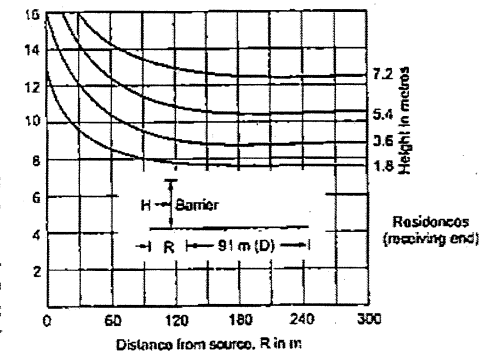

Fig. 8.4 Noise reduction caused by barrier wall raised between a noise source and the receiving end.
- Raising of such obstructions and barriers in between the noise sources (auto-mobiles) and residences, may considerably reduce the noise levels reaching the residences. Attenuation of up to 15 decibels is possible in this manner. The extent of attenuation achieved by raising of such a barrier well, is shown in figure 8.4.